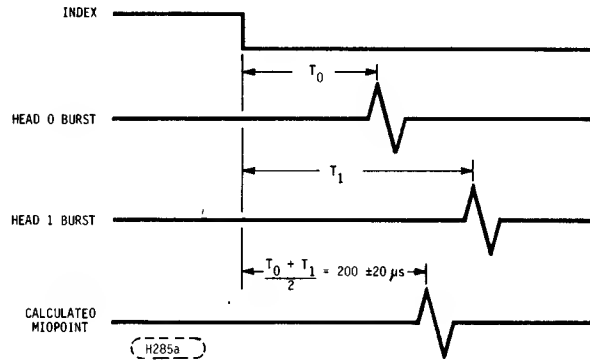

FIGURE 6-4A. INDEX TO BURST TIMING ADJUSTMENT
- f. Adjust the time from the leading edge of the Index pulse to the midpoint between the burst pulses of Head 0 and Head 1 at Track 34 until it measures  $200 \pm 20 \mu s$ , (refer to Figure 6-4a). To adjust the index to burst time turn index potentiometer on the Data Control PWA.